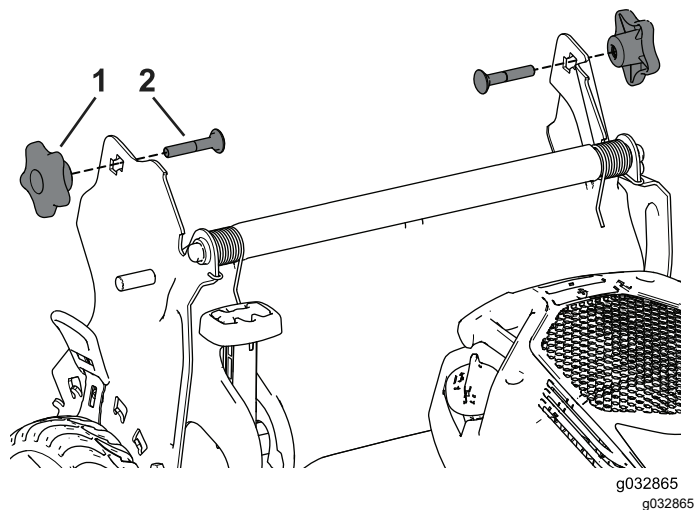

Figure 28
3. Insert the carriage bolt (with the bolt head toward the inside) through the handle bracket and the upper hole in the handle end. Ensure that the square edges of each carriage bolt fits into the upper or lower square hole in its related handle bracket (Figure 28).